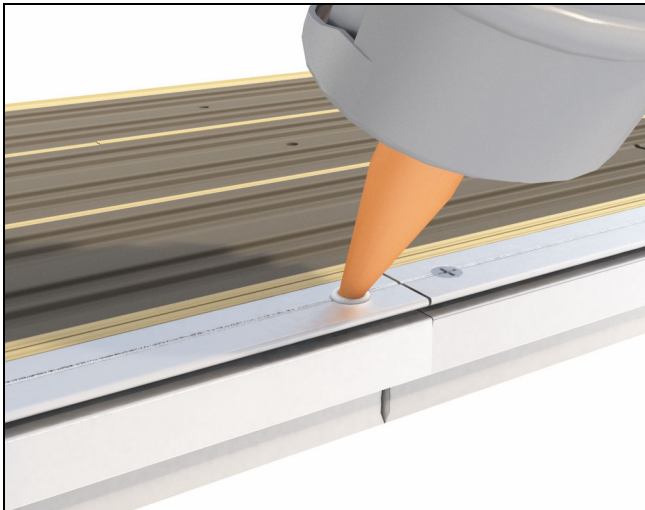

Figure 14
7. Inject sealant into the open hole on the frame cladding splice key until squeeze out occurs. Insert #7 x 5/8" flat head screw into hole. See figure 14.